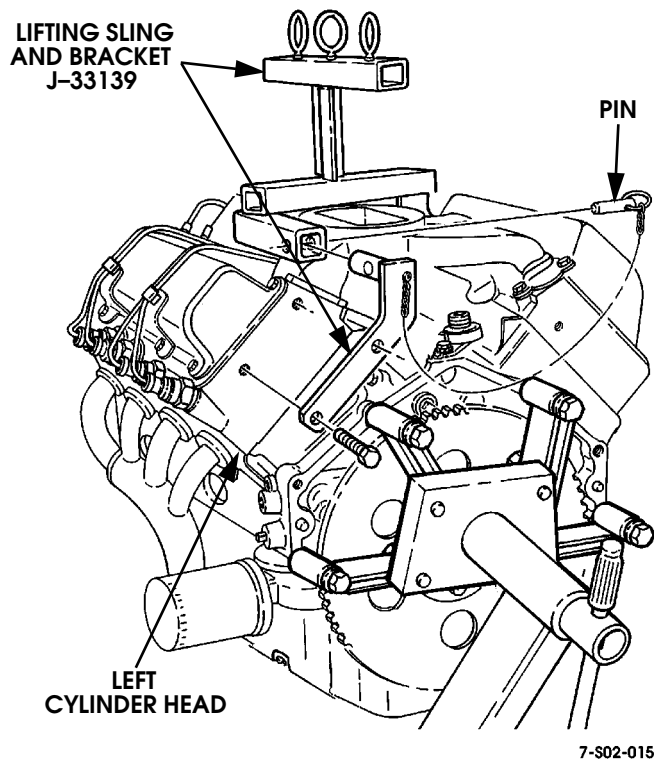

Figure 2-74: Engine Mounted on Repair Stand
44. Mount engine on heavy duty engine stand or cradle (Figure 2-74). Engine stand should have minimum capacity of 1500 lb (680 kg). Then remove lifting sling.